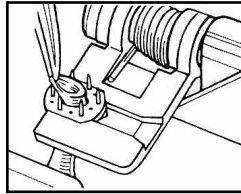

Figure 6
8. Place the Anastomotic Instrument perpendicular to the vessel(s), with the FLOW COUPLER jaw assembly near the two vessel ends. Pull one vessel end through one of the FLOW COUPLER rings using microsurgical forceps (See Figure 6).